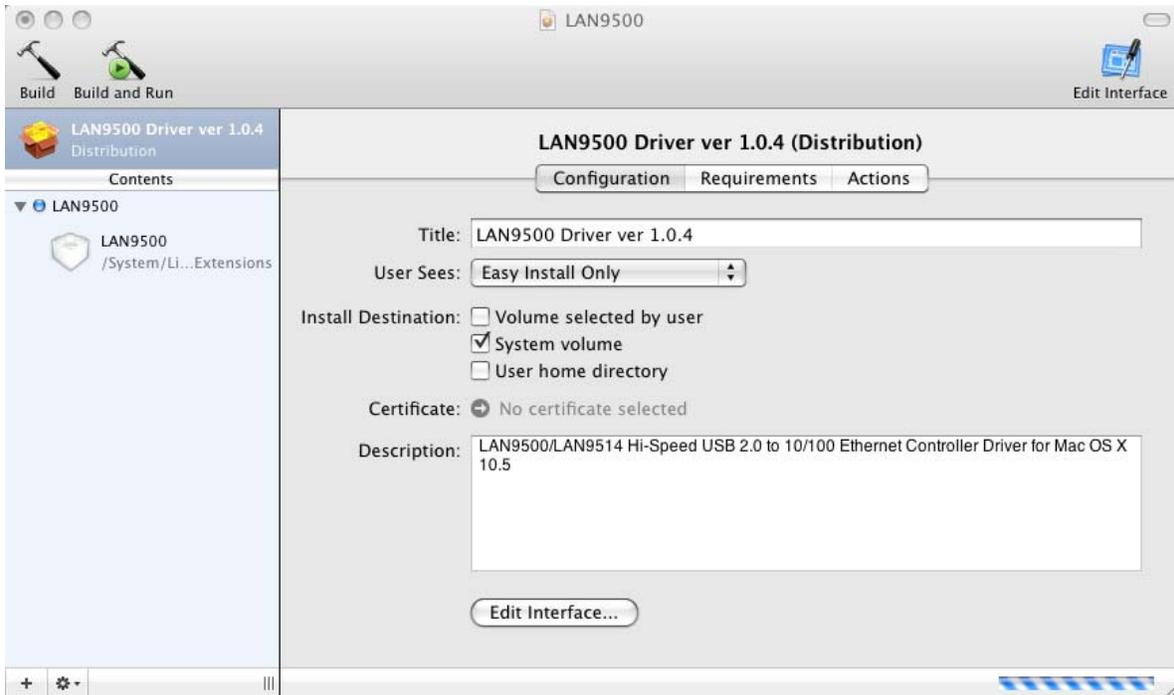

Figure 7.3 Adding LAN9500.kext
- Execute PackageMaker and add the LAN9500.kext file by selecting the "+" and browsing to its location, as shown in Figure 7.3. Fill in the "Title" and "Description" fields as desired.